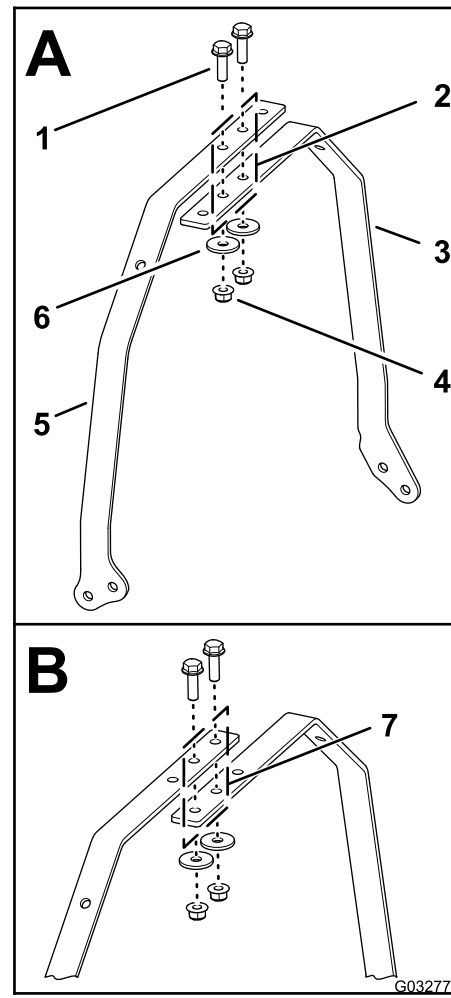

Figure 6
- Flex and eFlex 1800 series machines**—align the 2 holes furthest from the straight ends of the left light-bar strap and the right light-bar strap (A of Figure 6).
- Flex and eFlex 2100 series machines**—align the 2 holes closest to the straight ends of the left light-bar strap and the right light-bar strap (B of Figure 6).